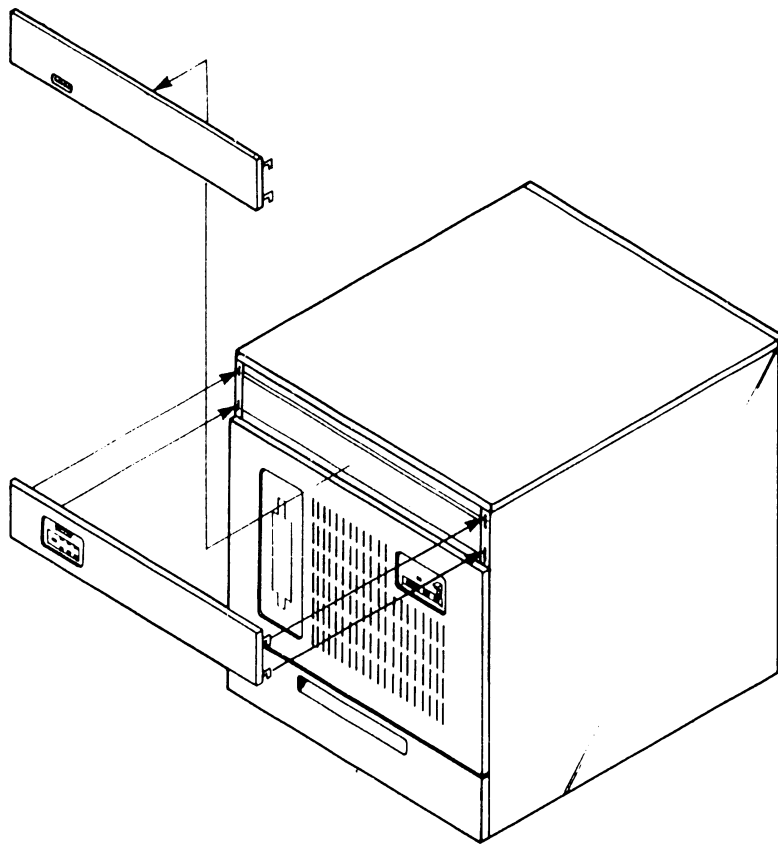

Figure 4-4 Upper Front Panel Removal/Installation
1. Lift the panel upward to disengage its four tabs from the slots on the chassis bracket (Figure 4-4).